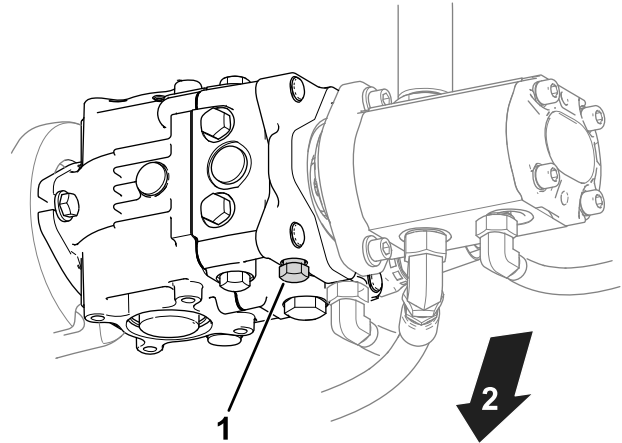

Figure 24
1. Locate the bypass valve on the pump (Figure 24).